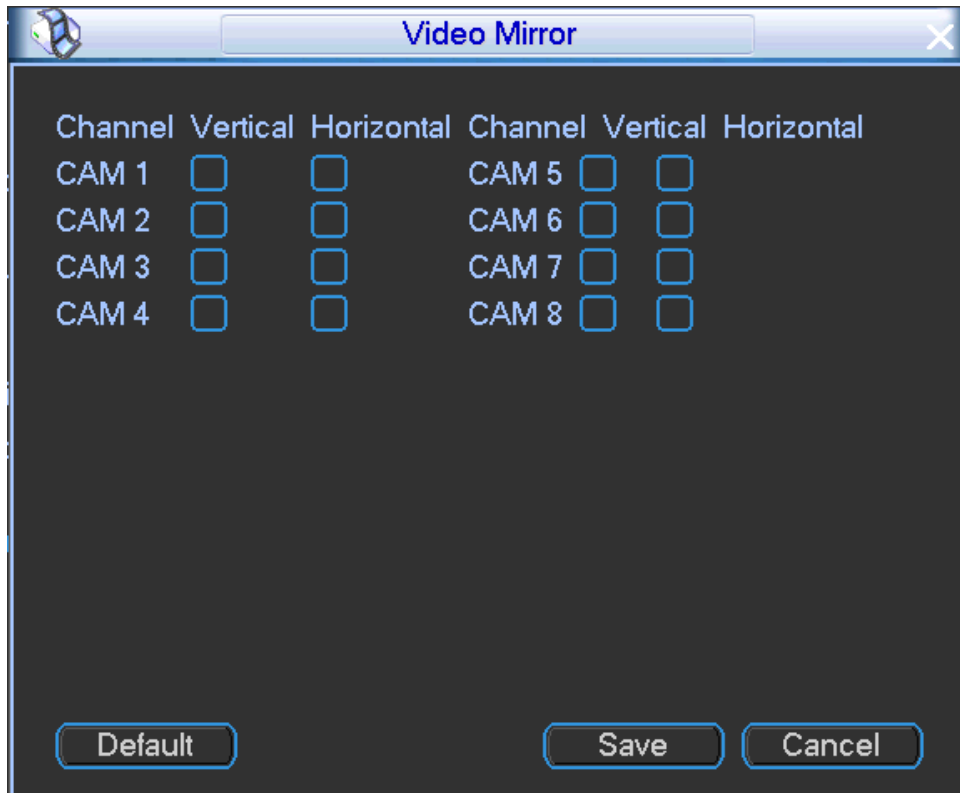

Figure 4-79
- Video mirror: Click Setup button, enter video mirror interface. See Figure 4-79. Set the vertical or horizontal mirror.